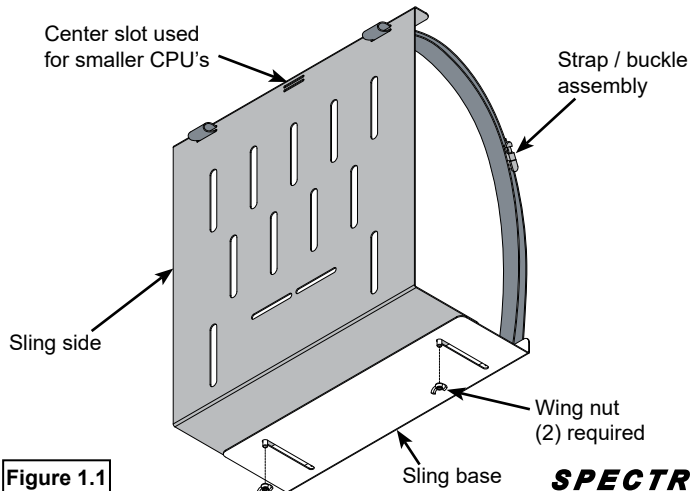

Figure 1.1
1. Assemble the sling side and base using (2) 1/4-20 wing nuts as shown in **Figure 1.1**.